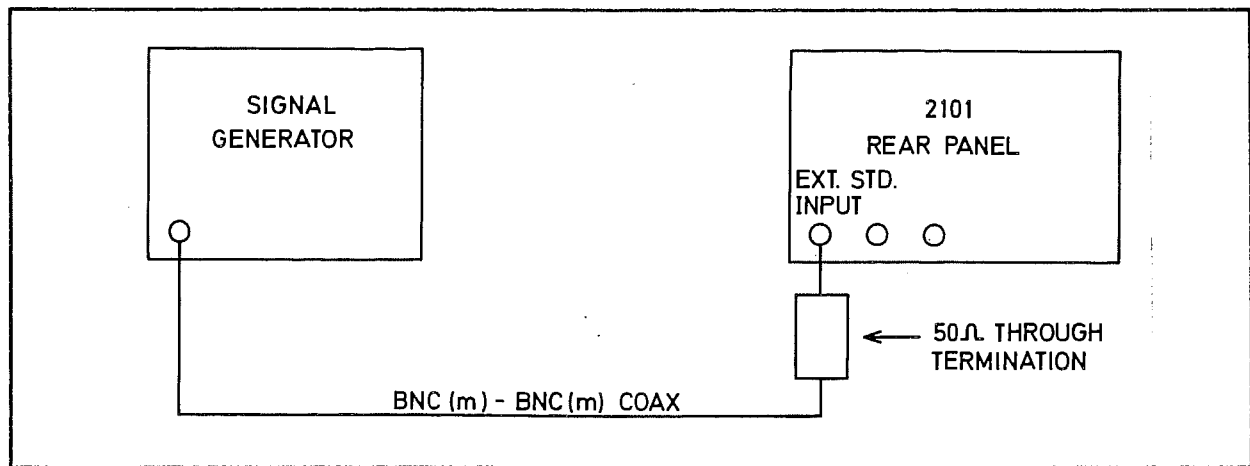

Fig. 7.24 Connection for External Standard Input Sensitivity PVP
87 (1) Connect the equipment as shown in Fig. 7.24.